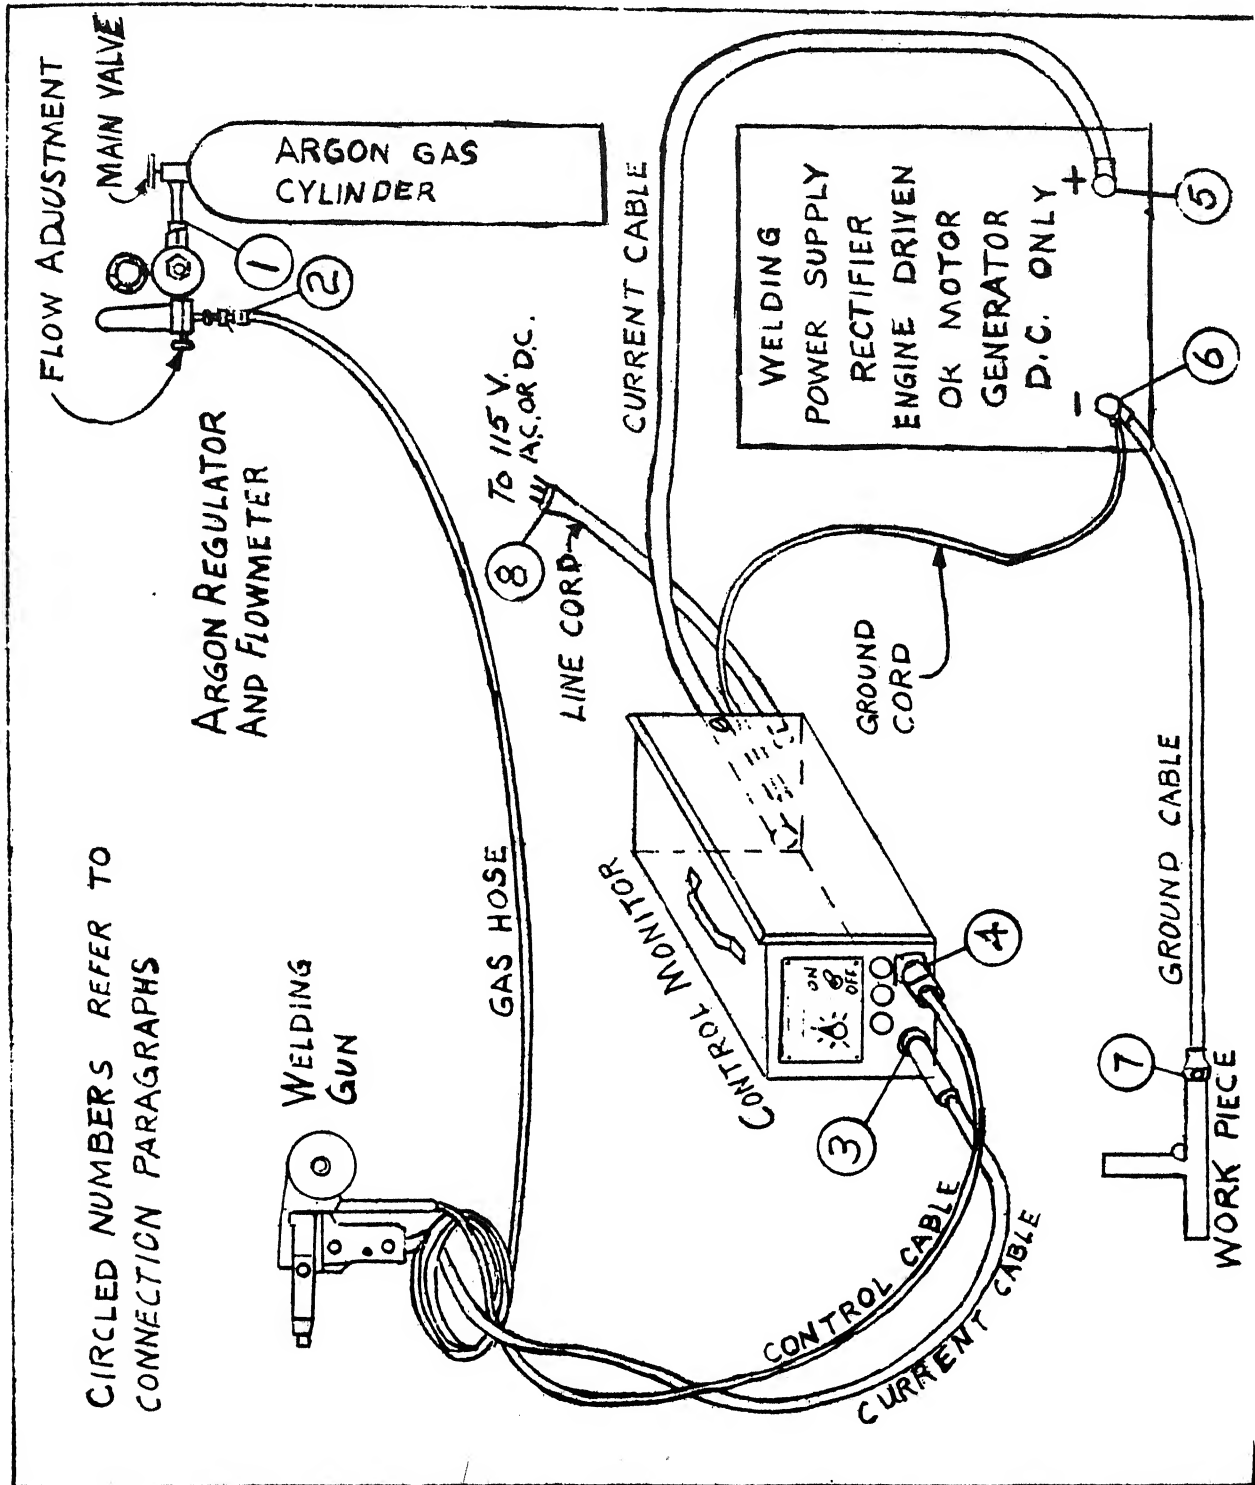

Figure 4. Welding System Set Up.
2. To adjust the gas flow, first turn on the gas supply by turning on the main valve at the top of the gas cylinder. Being careful not to touch the wire to the workpiece, pull the weld trigger and hold; at the same time adjust the gas regulator by turning the flow adjustment shown on Figure 4 to the required gas flow. As a starting point adjust the flow to 35 cubic feet/hour. This is indicated when the top of the ball in the flowmeter reaches the calibration marked 35. An increase or decrease may be required after welding conditions are established.
4. Turn the rheostat knob (1) on the control monitor to maximum.